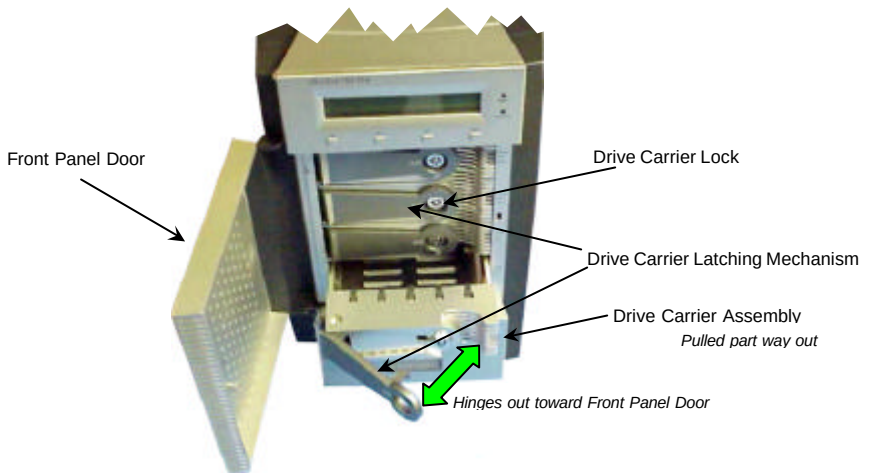

Figure 3. UltraTrak Disk Drive Access (SX4000 Shown)
2. Unlock the Drive Carrier Latching Mechanism and remove an unused Drive Carrier (see Figure 3 on page 6) from the UltraTrak. (Begin at the top and work down.)